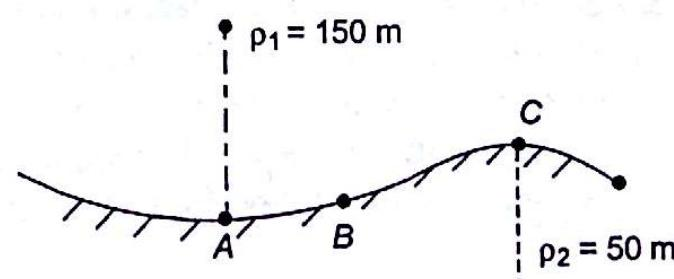

Fig. 11.13
11.9 A car driver anticipates a dip and a hump in road applies brakes to the car. At position A, speed of car is 90 kmph which is reduced to 36 kmph at point C, covering a distance $AC = 100 \text{ m}$ as shown in Fig. 11.13. Determine normal accelerations at A, B and C. What is the total acceleration at A?